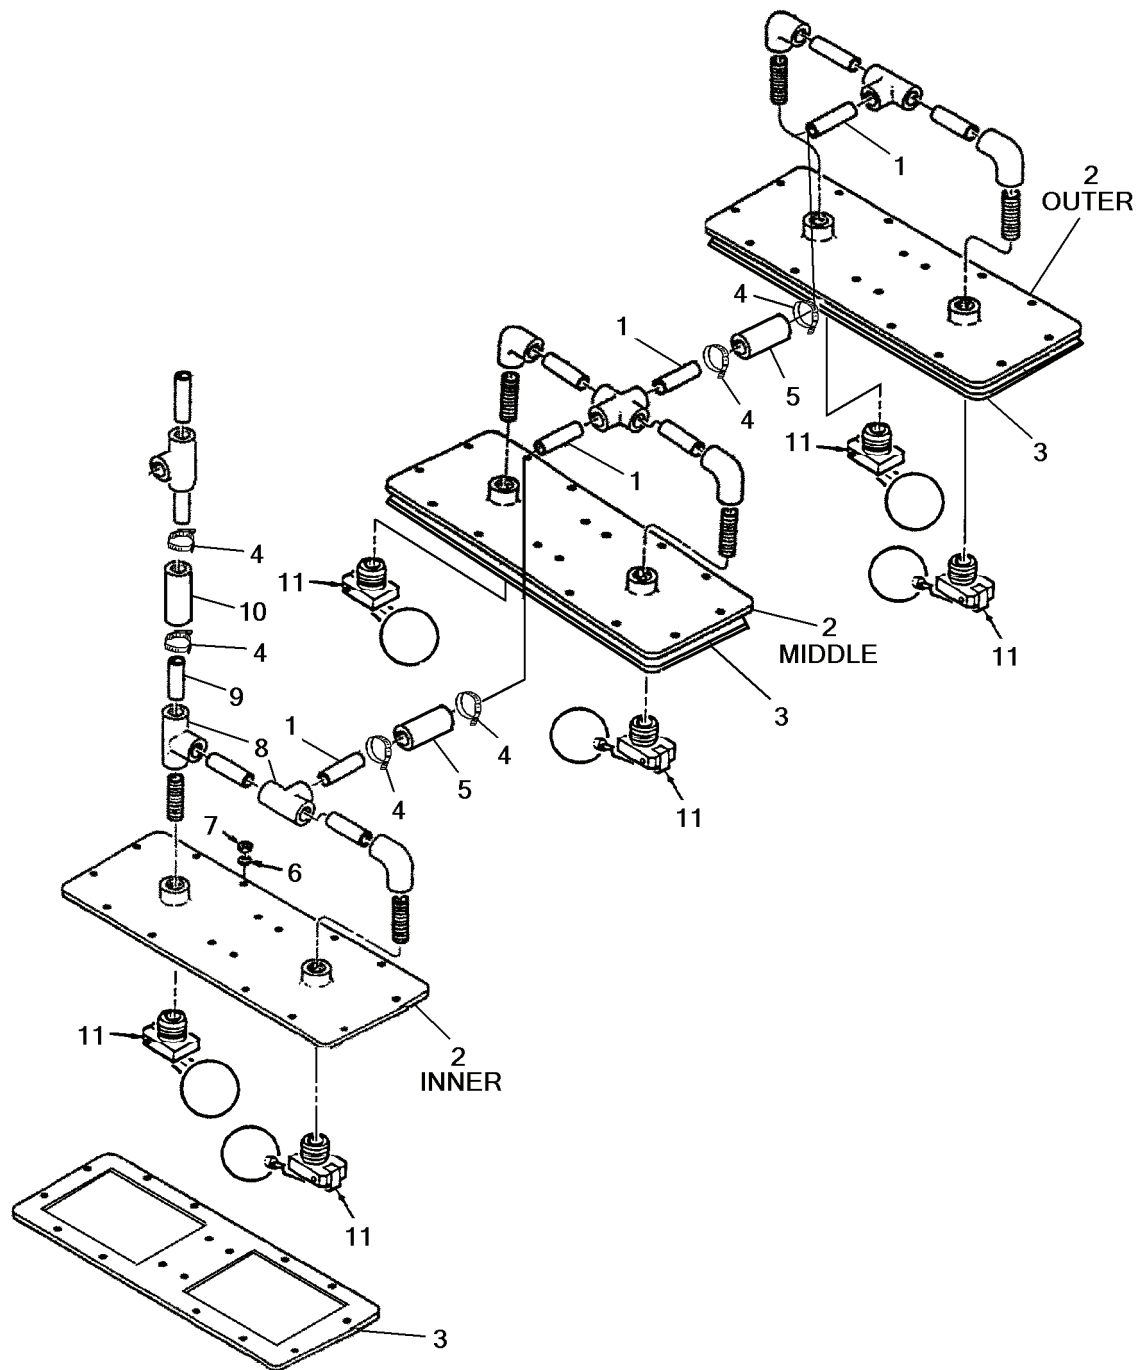
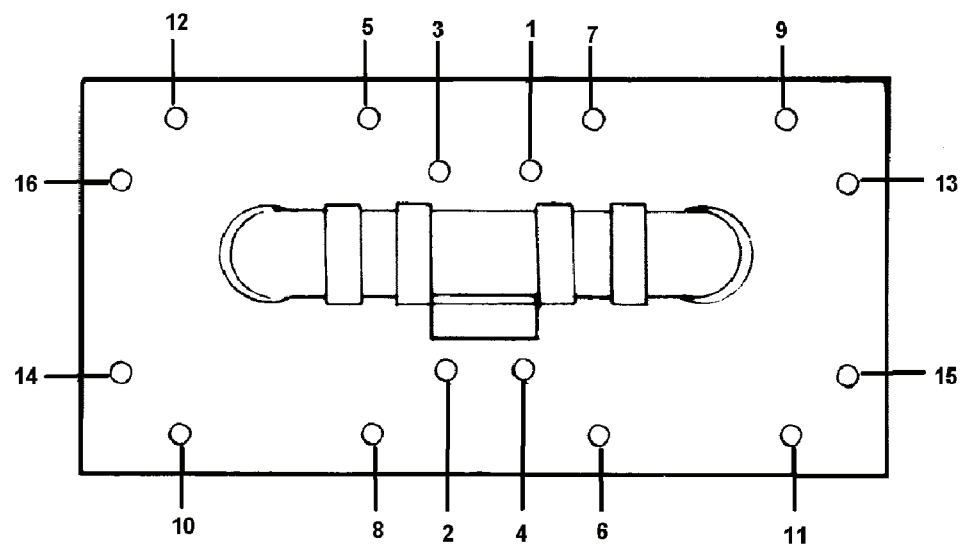

Figure 2-16. Sedimentation Tank Cover Assemblies.
Figure 2-17. Sedimentation Tank Cover Torque Sequence.
2-16. Sedimentation Tank Top Assembly. (Figure 2-16 and 2-17)
Hoses (5 and 10, Figure 2-16) will slide on PVC pipe (1 or 9) until butted to the T-fitting, the middle cover must be removed before the inner cover due to space limitations.
- a. Loosen the hose clamps (4, Figure 2-16) and slide rubber hoses (5 and 10, Figure 2-16) off pipe (1 or 9, Figure 2-16).
- b. Remove nuts (7, Figure 2-16) and washers (6, Figure 2-16).
- c. Remove cover assembly (2).
- d. Remove cover gasket (3).
- b. Inspect/replace the gasket (3) if damaged.
- c. Check float valve assembly (11, Figure 2-16), replace if damaged.
- a. Clean the gasket sealing surfaces on the sedimentation tank and cover assembly (2, Figure 2-16).
- b. Position the gasket (3, Figure 2-16) on the sedimentation tank.
- c. Position cover assembly (2, Figure 2-16) onto the appropriate location of the sedimentation tank.
- d. When positioning the inner cover (2) the end of the vent pipe (9, Figure 2-16) must be placed in the hose (10). Position the cover (2) on the tank and studs.
- e. Install the sixteen nuts (7, Figure 2-16) and washers (6, Figure 2-16) on the cover (2, Figure 2-16). Tighten each nut finger tight only.
- f. Tighten the nuts (7, Figure 2-16) to 31 ft-lbs in the sequence shown in Figure 2-17.
- g. Tighten the clamps (4, Figure 2-16) on the hose (5, Figure 2-16) to 40 in-lbs.